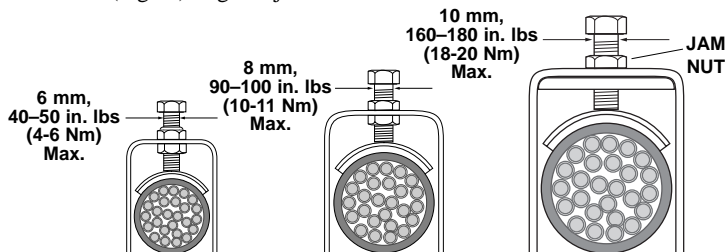

FIGURE 19-TIGHTENING CABLE CLIPS
5. After cable loops are aligned, clamp cables in place using cable clamps or clips depending on application. **Clamp** tightness is determined by how much the rubber clamp pad distorts the cable or hose (each type of cable will react differently). Approximately 15 ft. lbs. (20Nm) is suitable with good quality cable or hose. Allowable total distortion to get adequate clamping pressure must be determined by the installer **but excessive pressure may damage the cables.** Cable **clips** should be tightened to 40-50 in. lbs (4-6 Nm) **maximum** for clips with 6mm threads, 90-100 in. lbs. (10-11 Nm) for clips with 8mm thread and 160-180 in. lbs. (18-20 Nm) for clips with 10mm threads (Fig 19). Tighten jam nut to secure.